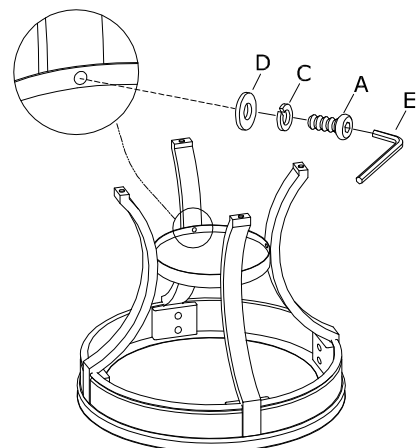

Figure 2
3. Attached the shelf to the legs using bolt (A), lock washer (C) and flat washer (D), tighten with the wrench (E). As shown Fig. 2. Repeat for other but leave bolts loose .